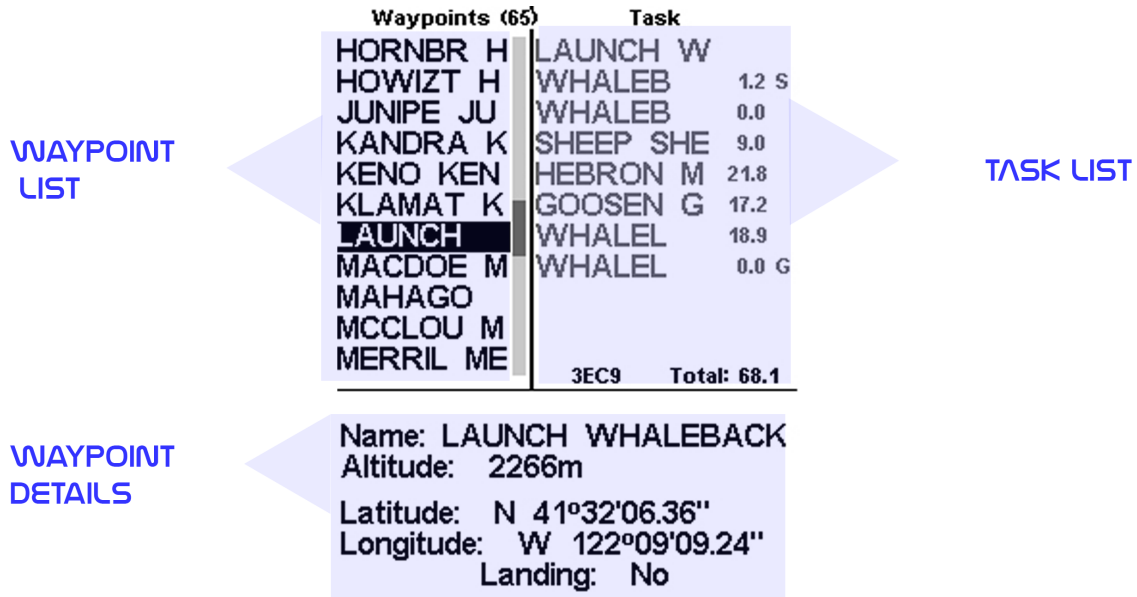

Figure 4.2: Waypoints and RouteScreen
The Waypoints/Route page allows the user to manage waypoints, and define a route/task. As shown in Figure 4.2, the page is divided into 3 areas, namely the waypoint list (WL); Routelist (TK) and selected waypoint details/options list (DO). The DO area can change according to which submenu you are in. Specifically, it can show the selected waypoint data, or a list with possible actions for the waypoints. Entering the page activates the WL area. At the top of the page next to the title Waypoints, is the total number of Waypoints stored in the GPS SD instrument1. The first waypoint on the list appears highlighted, and the corresponding data of the selected waypoint is shown in the DO area. As the cursor is moved to a different waypoint so the data changes matching the newly selected waypoint. If the waypoints list is empty a list of available actions is shown in the DO area. Since no waypoint exists only the *Insert new Waypoint* action is available.